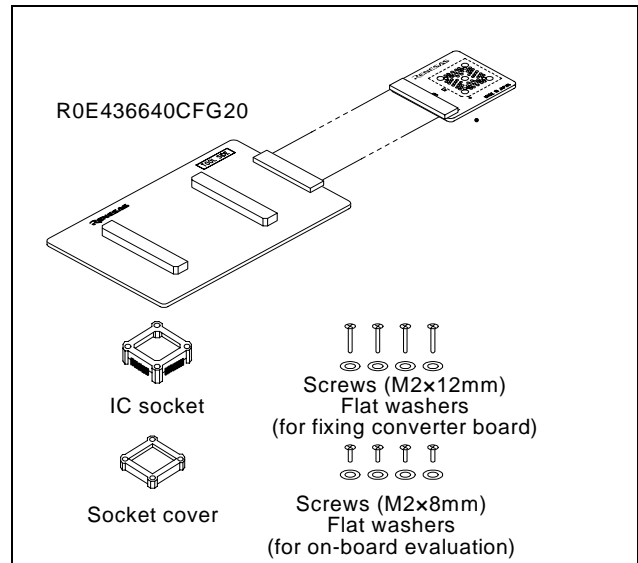

Figure 1 Package components of the R0E436640CFG20
2. Package Components (See Figure 1)